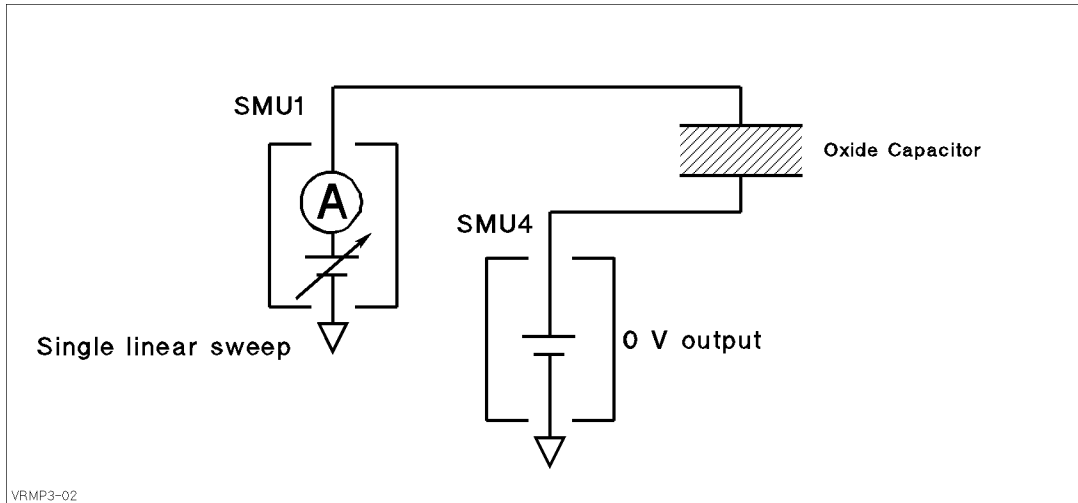

Figure 3-3. Simplified Measurement Circuit of Ramp Stress Test
- SMU channel definition (see Figure 3-3):
The sample program assumes the connection between the SMUs and the oxide capacitor as shown in Figure 3-3. SMU4 is set to force a constant 0 V, and SMU1 is set to voltage sweep mode by the VRSWEP.MES setup as shown in Figure 3-4.